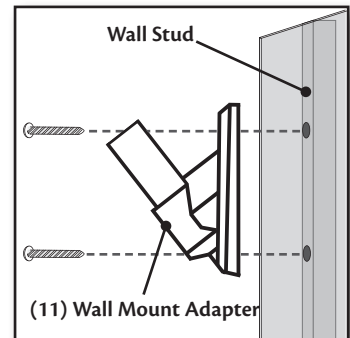

Figure 12.
1. Place the Wall Mount Adapter (11) against the wall and stud where you want to mount the fan.
2. Level the Wall Mount Adapter (11) for Aesthetics.
5. Line the holes on the Wall Mount Adapter (11) to the Wall holes and insert the 2 Wall Mount Screws and tighten Securely. **Figure 12.**